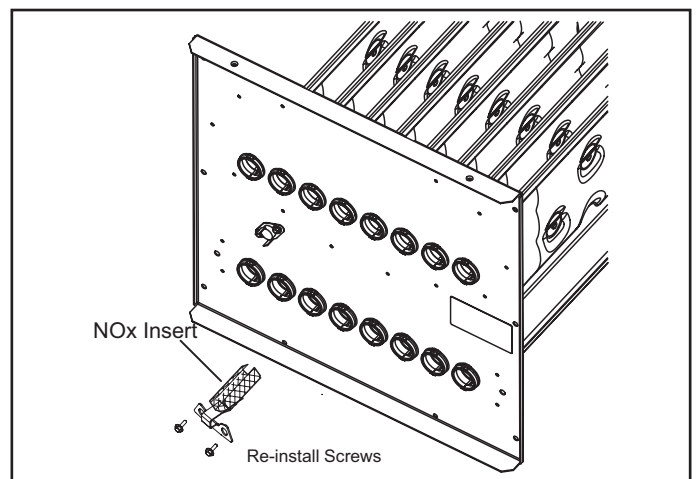

Figure 5. NOx Inserts
- b. Remove the screw which secures each of the NOx inserts to the clamshell. Remove the NOx insert and reinstall the screw. See Figure 5.